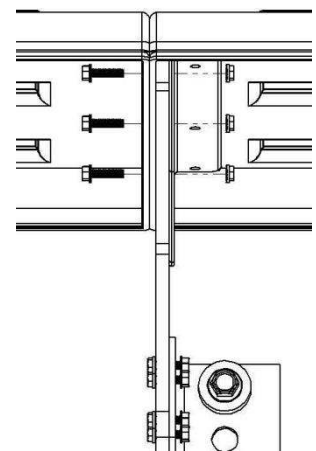

Figure 10
B. Install center bracket as close to where the fenders join together as possible (Figure 10).